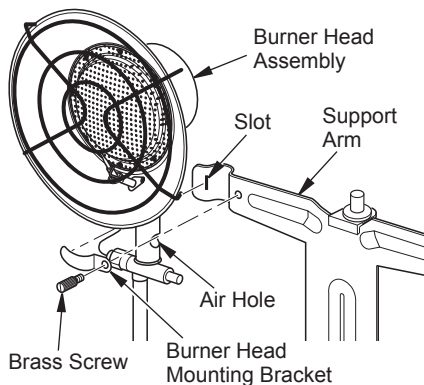

Figure 3 - Attaching Burner Head Assembly to Support Arm
4. Mount the burner assembly onto the support arm using the burner head mounting brackets and brass screws as shown in Figure 3. Place side of bracket into the slot on support arm. Secure with screw. Make certain that the air holes on the sides of the burner tube are not blocked. Securely tighten the burners into place.